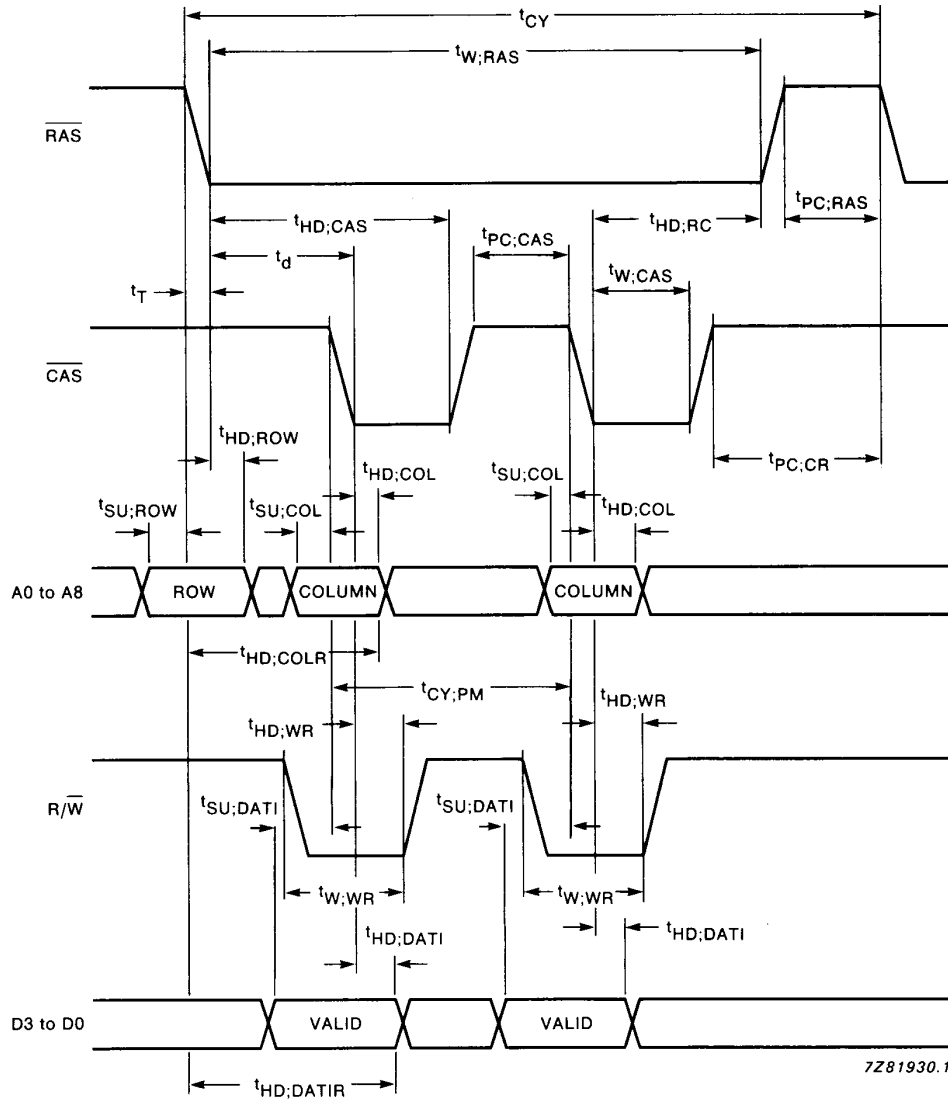
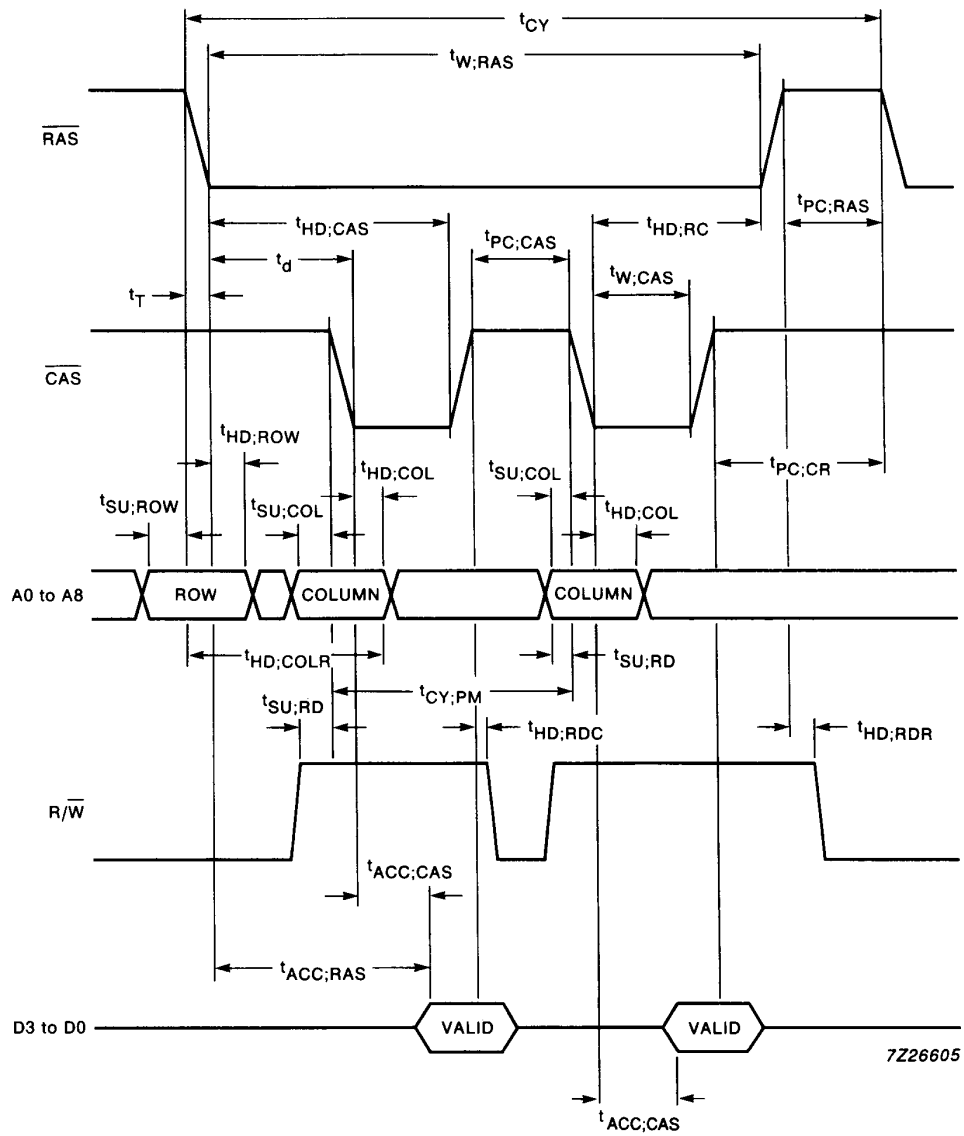

Fig.5 Memory interface timing for write cycle to external DRAM.
Fig.6 Memory interface timing for read cycle from external DRAM.
14. For details of memory interface timings to and from external DRAM see Fig. 5 and Fig. 6.